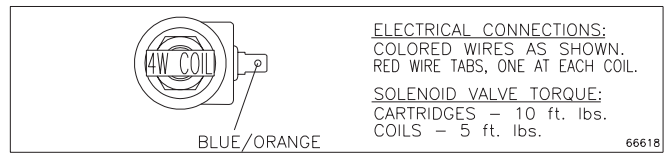

**Figure 23**
Refer to Figure 23 on the top of the next page for the following instructions.
4. Slide the small pocket of the cable boot onto the vertical tab of the boot bracket located on the lift frame. (See Figure 23 on previous page.) Insert the harness plugs into the boot for storage when the snowplow is removed from the vehicle.